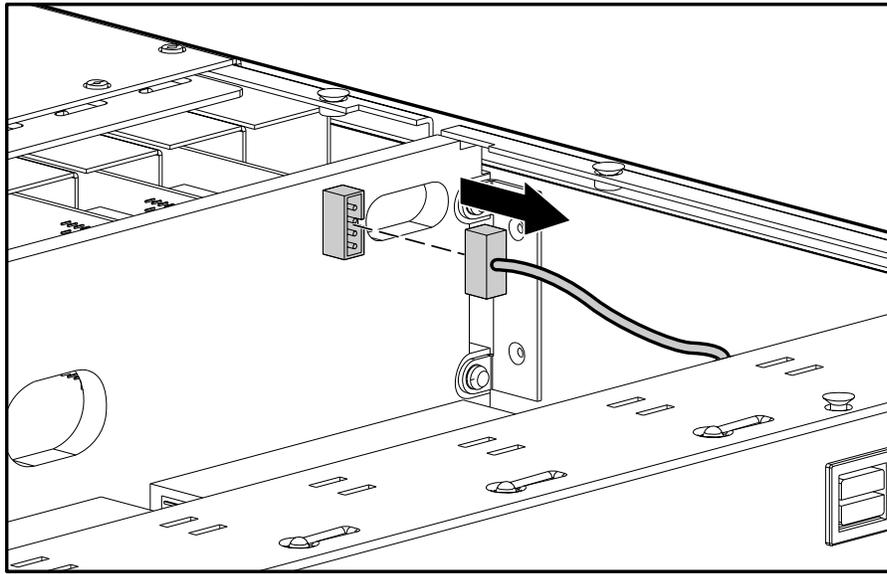

Figure 26: Unplugging the power switch cable
9. Unplug the power switch cable from the midplane, as shown in Figure 26.